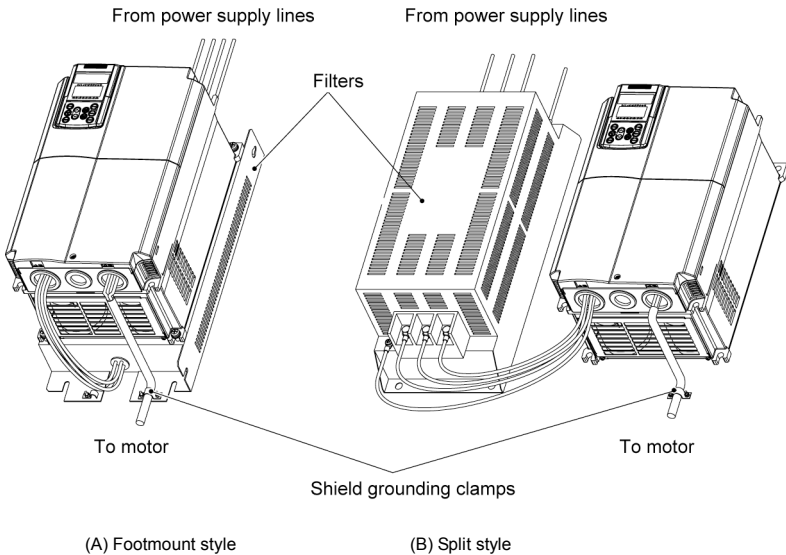

Figure 10.2 Installing Inverter and EMC-compliant Filter
| 3-phase208 V     | FRN001F1S-2U   | EFL-4.0E11-2               | 2.96                       | 2.96            | Split styleSee Figure 10.2 (B).     |
| 3-phase460 V     | FRN001F1S-4U   | EFL-4.0G11-4               | 3.0                        | 105.0           | Footmount styleSee Figure 10.2 (A). |